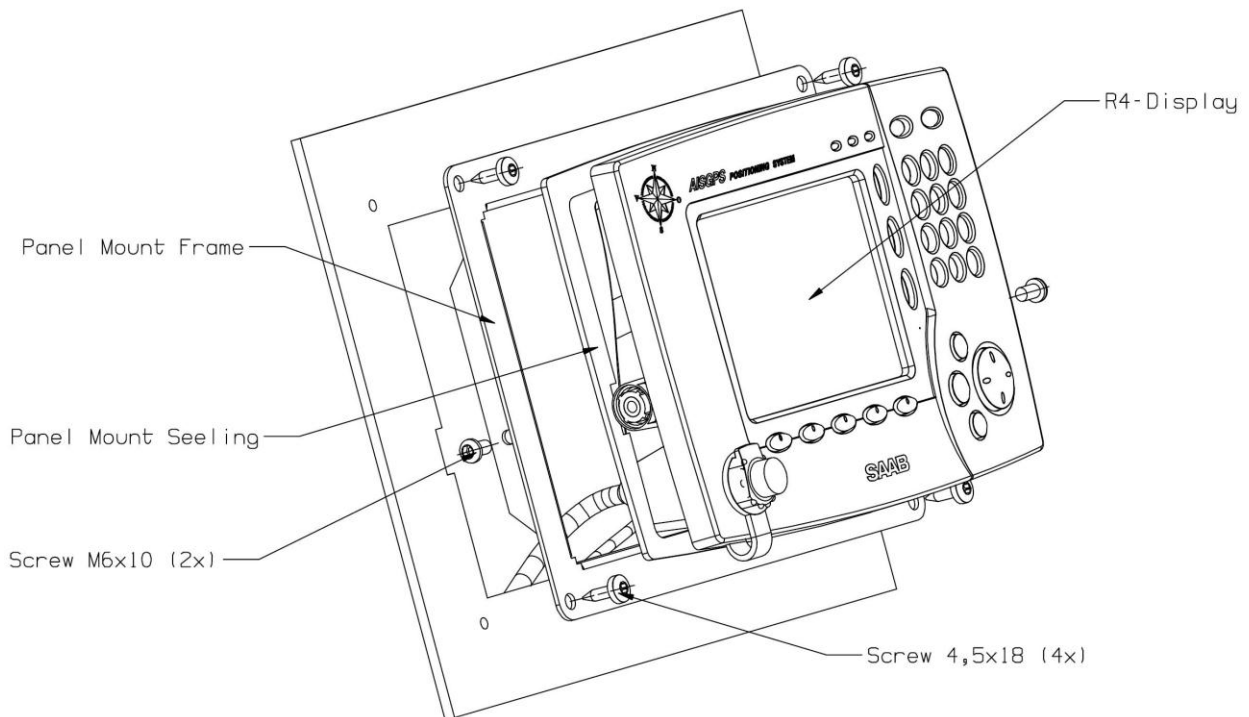
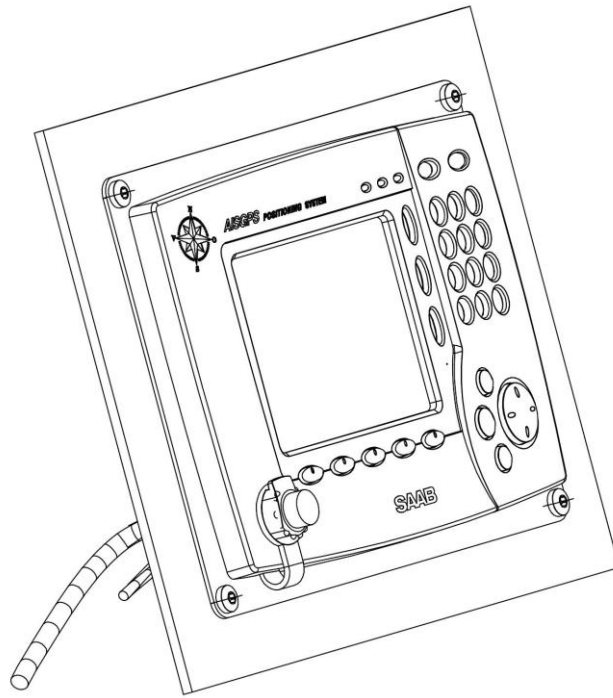

Figure 4-7: Panel mounting R4 Display
Figure 4-8: R4 Display panel mounted
8. Slide the R4 Display with the panel mount frame into the rectangular hole in the panel and fasten it to the panel with four screws, as illustrated in Figure 4-7 and Figure 4-8 below.